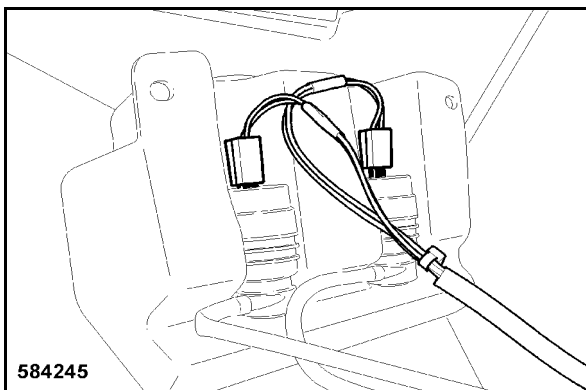

Fig. 223
- Plug on both connecting plugs for the washing water pumps (Fig. 223).